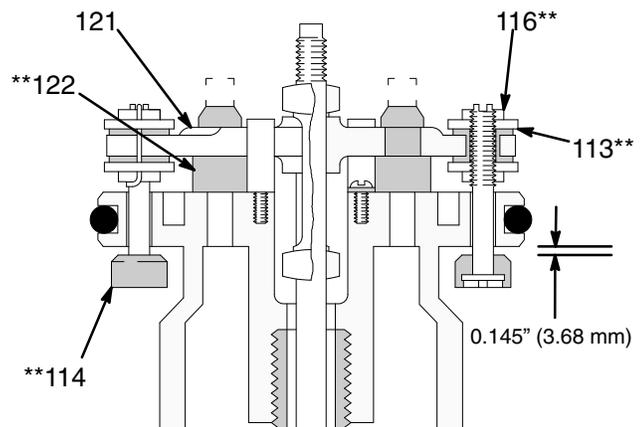

Fig. 3
10. Lubricate the parts with light water-proof grease. Install the gland (138) v-packings (137) with the lips facing down, bearing (139), back-up washer (129), and flat packing (130) into the throat. Screw the packing nut (132) loosely into the base. Slide the piston rod (128) down through the packings and lower the piston (118) onto the base. Be sure that the o-rings (125 & 126) are in place.
11. Reinstall the transfer valve poppets (114†) on the valve stems (115†). Pull the exhaust valve poppets (122†) into the actuator (121) and clip off the top part (shown with a dotted line in Fig. 3). Install the transfer valve grommets (113†) in the valve actuator. Reinstall the trip rod (103) in the piston (118). Place the trip rod yoke (109) and valve actuator (121) on the trip rod. Check that the o-ring (123) is in place, and that the valve actuator is supported by the spring clips (119)
12. Install bottom adjusting nuts (116†) on the valve stems (115†) and screw the stems into the grommets (113†). Screw the top nuts (116†) on the stems. Before installing the lockwires (120†) in the adjusting nuts, adjust the transfer valve so there is a 0.145 in. (3.68 mm) clearance between the poppets (114†) and the seats when they are open. See Fig. 3. Adjustment gauge 171–818 is available to measure this. Reinstall the springs (112) and pivot pins (11) on the toggle arms (124) and snap the toggles to the up position with a screwdriver.